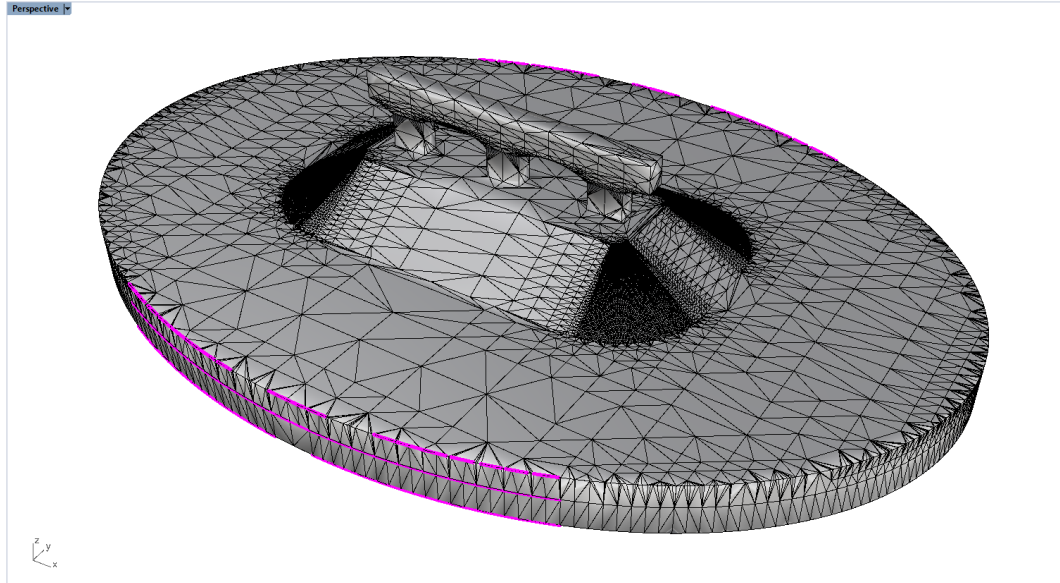

Figure 24: Naked edges (in pink) and clashing faces (red) after using **GInt** with *Tolerance* = 0.005. Compare with Figure 22.
10. Select all initial surface meshes and run **GInt** again. This time specify *Tolerance* = 0.005 and keep all other parameters the same as in the previous run. After **GInt** executes, visualize naked edges and clashing faces as outlined previously in step 8. The results show that there are still some naked edges and clashing faces (Figure 24), which indicates that **GInt Tolerance** is still not sufficient.